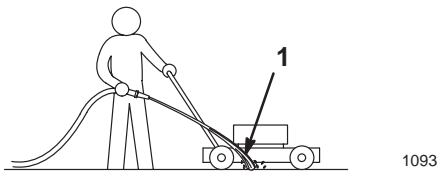

Figure 16
4. Hold the running water hose at handle level and direct the water flow on the ground just in front of the *rear right wheel* (Fig. 16).